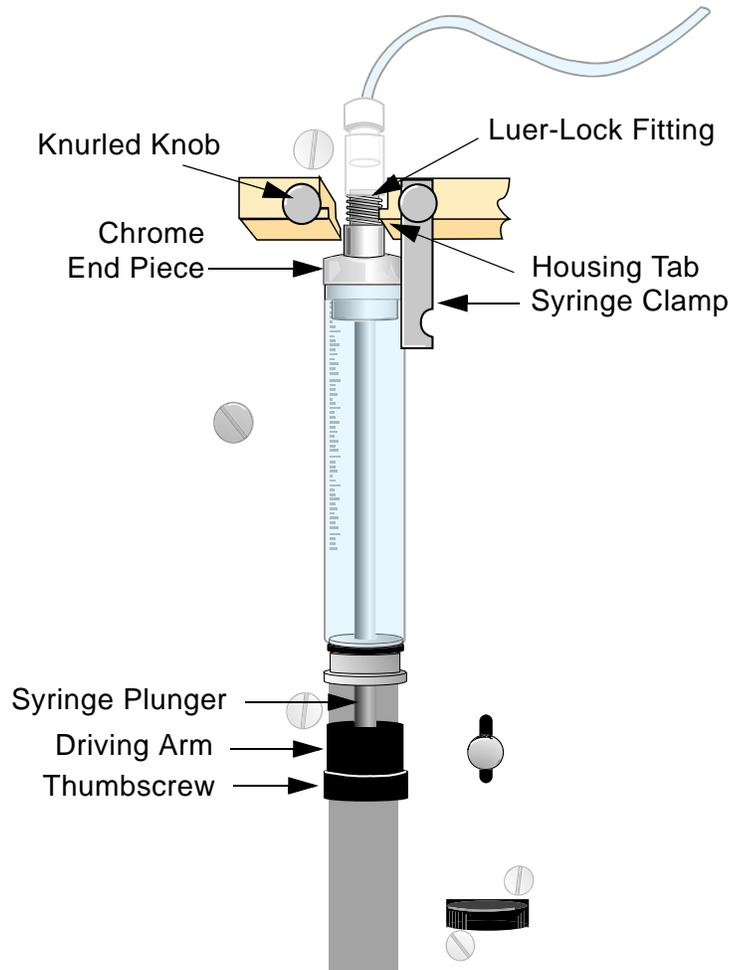

Figure 72. Syringe Clamp Knurled Knobs
- 1 Loosen the knurled knobs on both sides of the syringe clamp. Pivot the open end of the syringe clamp out of the way, as shown in Figure 72.